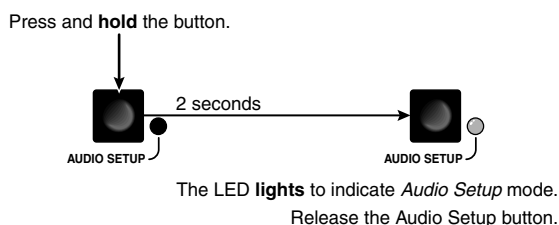

Figure 3-31 — Select Audio Setup mode
- Press and **hold** the Audio Setup (I/O) button for approximately 2 seconds (figure 3-31) until the Audio Setup LED lights.